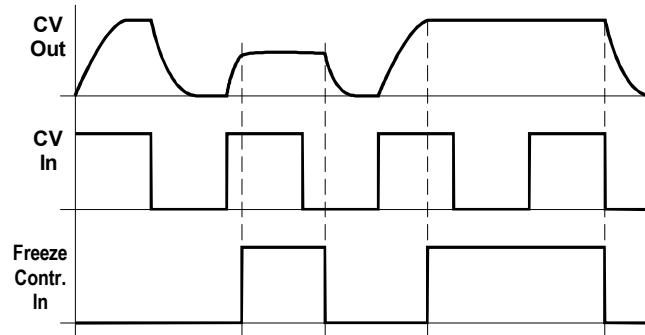

Fig. 3: Using a gate signal to freeze a voltage
❹ Freeze Control Input
A gate signal at **input ❹** freezes the slew limiter's output signal (see Fig. 3).